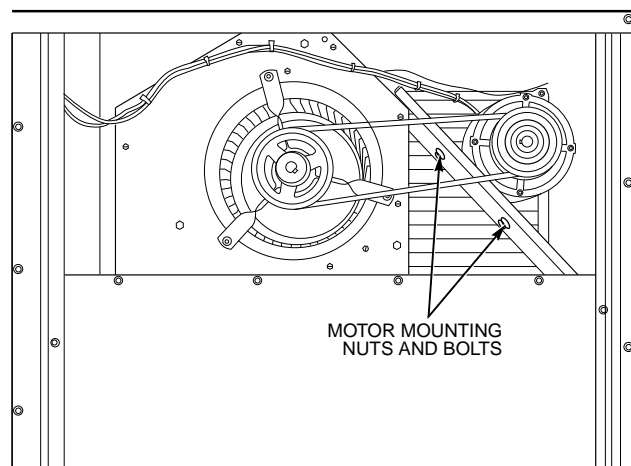

Fig. 33 — Belt Drive Motor Mounting
BELT DRIVE MOTORS — Fan motor pulleys are factory set for speed shown in Table 1. See Fig. 33 for belt drive motor location.
2. Loosen belt by loosening fan motor mounting nuts. See Fig. 33.